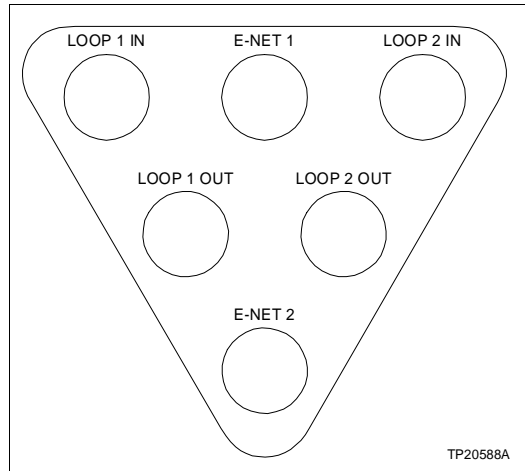

Figure PR30-1. Elbow Loop Connectors
- 5. Connect it to the proper elbow loop connector as shown in Figure PR30-1.